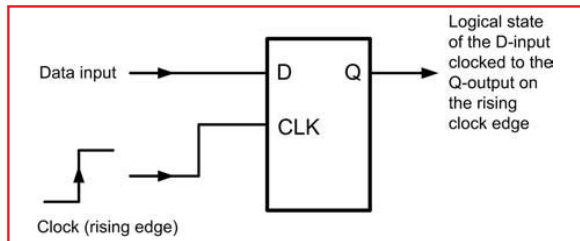
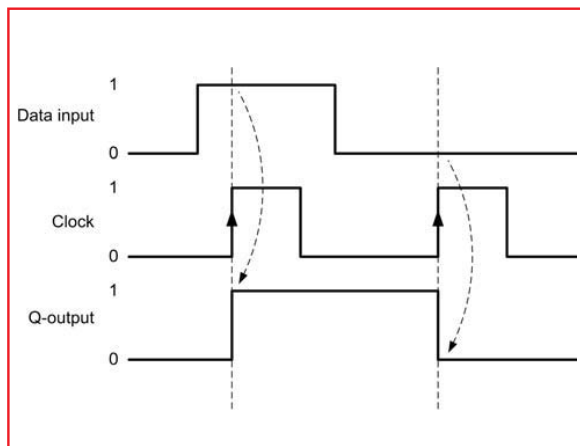

Fig.6.15. D-type bistable
Fig.6.16. Timing diagram for the D-type bistable
The D-type bistable has two inputs: D (standing variously for *data* or *delay*) and CLOCK (CLK). The data input (logic 0 or logic 1) is clocked into the bistable such that the output state only changes when the clock changes state. Operation is thus said to be synchronous. Additional subsidiary inputs (which are invariably active low) are provided, which can be used to directly set or reset the bistable. These are usually called PRESET (PR) and CLEAR (CLR). D-type bistables are used both as latches (a simple form of memory) and as binary dividers. The simple circuit arrangement in Fig.6.15, together with the timing diagram shown in Fig. 6.16 illustrate the operation of D-type bistables.